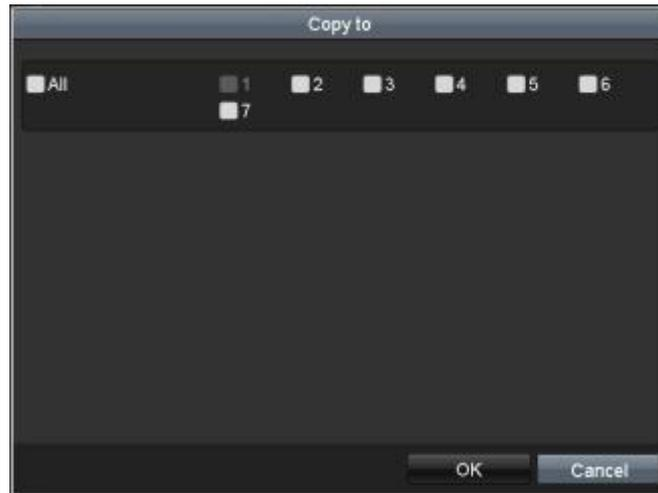

Figure 12-18 Copy Settings to Other Camera(s)
Step 5 You can copy the quota settings of the current camera to other cameras if required. Click the **Copy** button to enter the Copy Camera menu, as shown in Figure 12-18.